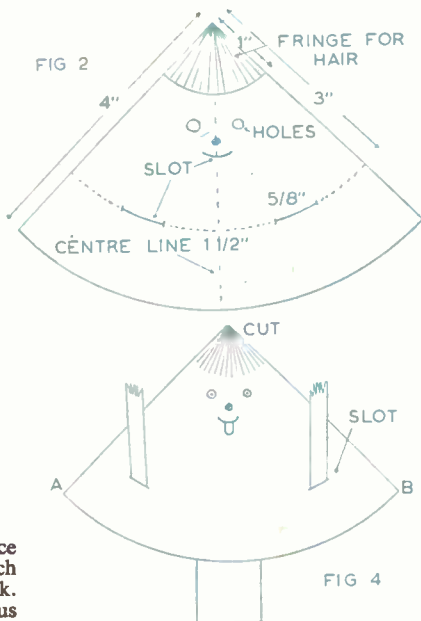

FIG 4
The sides of the lid are finished by preparing a strip of the same paper two inches wide and the length of the outside perimeter. Start at a corner laying the paper round the lid side, cutting at each corner and then turning inside the lid as shown in Fig. 4. Preparation of the lid will reveal how the box itself is prepared, starting first with a strip of binding round the top rim only. Again it be will
On completion of the second part the arms are folded where shown in Fig. 4 and pushed through the slots in the body
so that they are vertical. The tongue is now pushed through the slotted mouth, pressed down flat and the two parts will be reasonably locked together. Finally the body is fashioned in the shape of a cone by attaching side (A) to side (B) with a little gum (Fig. 4), the hair is fringed out a little as required, and the arms adjusted to any position. (S.H.L.)
This assembly is for the futtock shrouds, where this type is required for the lower shrouds, which it most certainly will be if it is used in the futtock shrouds. You will need to make a backing link as in Fig. 4. This can be cut from thin metal, cut or filed to shape, drilled for both holes and bent to shape. This link secures the metal stropping to the hull as shown in Fig. 5.